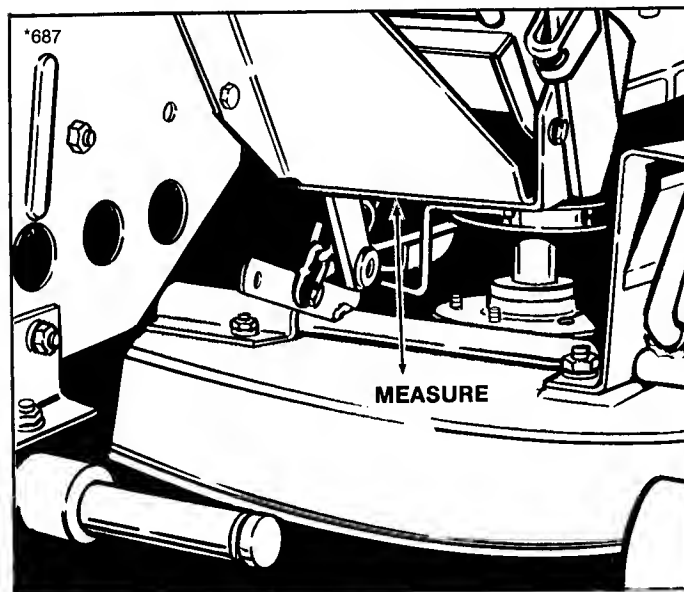

Figure 42. Measurement - Large Lift Lever
2. Measure the distance from bottom edge of lever bracket to mower deck (figure 42).